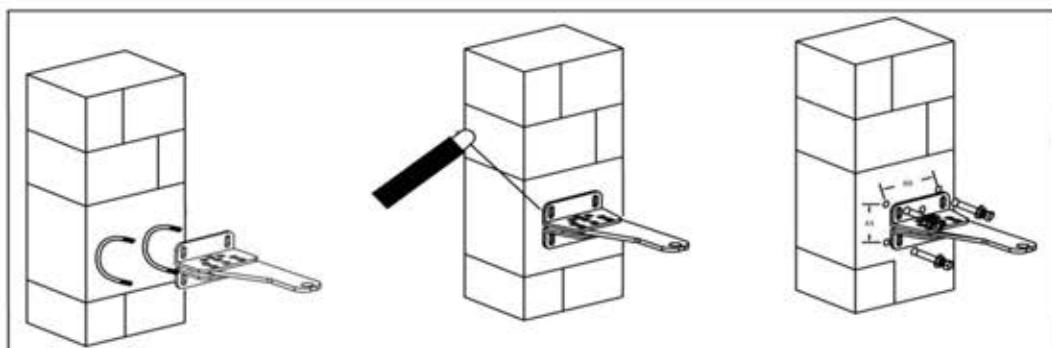

Figure 5
**1. Construction Drill and Bolts, Figure 5 right:**
**2. Construction Drill and Weld, Figure 5 middle:**
**3. Precast U Bolts, Figure 5 left:**